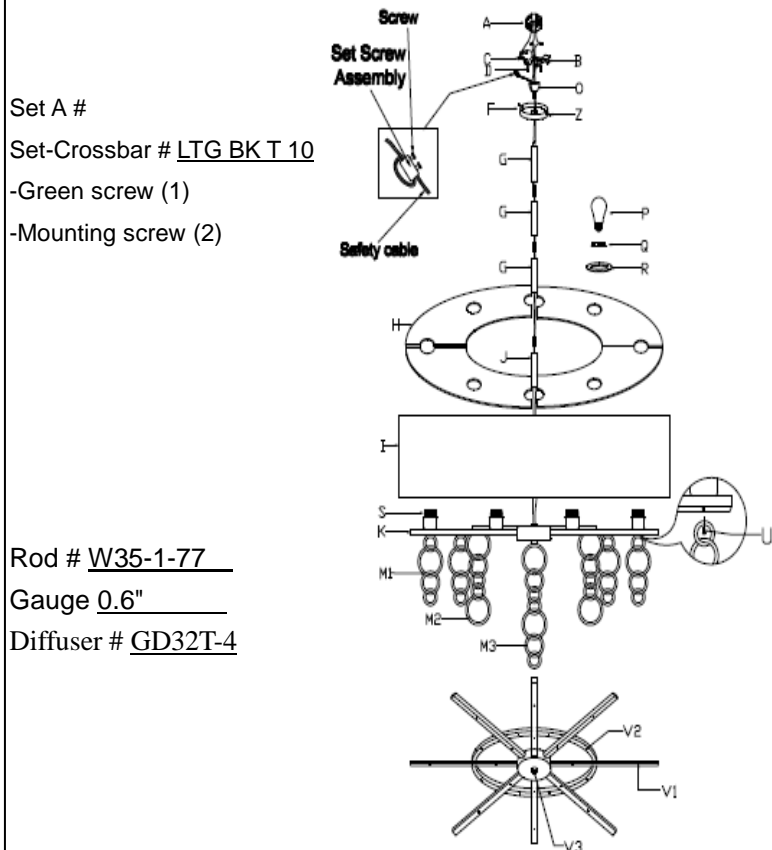

Fig.1-1
- Install the shade (I) onto the socket holders (S). Align the diffuser (H) to the socket holders (S) and secure with washers (R) and screw shell (Q). The diffuser should set as show in Fig.1-1 (top view).
- This fixture includes 1 x 6" rod 3 x 12" rods. Determine the desired hanging height and attach rods (G) to fixture body (J). Feed the fixture wires carefully through each rod during assembly.
- Next place canopy (F) over rods (G) and thread hanger ball (O) to rod (G). Please remove the nipple if installing with one 6" rod only.
- Attach the mounting plate (C) to the junction box (A) with screws (D) (size: #5/32"-32*0.5"L.).
- While holding the fixture body, install the fixture into the mounting plate (C) by tilting at a slight angle so that the hanger ball (O) slips into the mounting plate (C) as shown. Align the notch in the hanger ball (O) to the tab on the mounting plate (C) to prevent the fixture from turning.